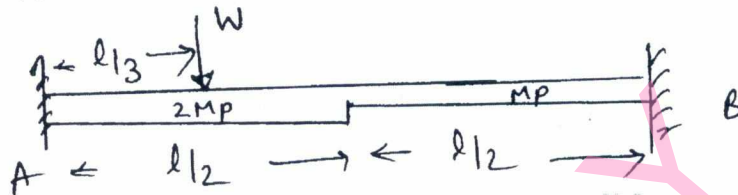

Fig.Q.4(c)
- Shown in Fig.Q.4(c) (10 Marks)